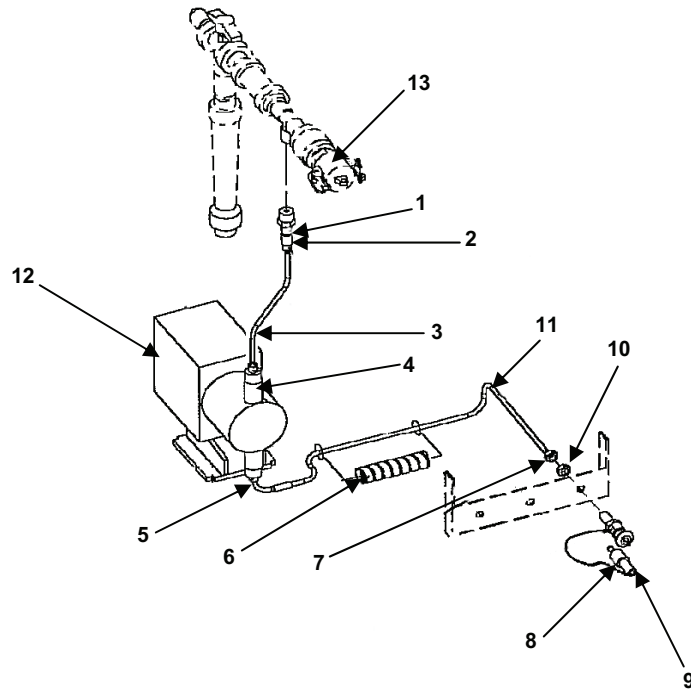

Figure 6. Chlorine Tubing.
1. Disconnect chlorine discharge tubing at nuts (Figure 6, item 2) and at (Figure 6, item 4) at chlorine pump (P7) (Figure 6, item 12).
2. Remove the insert (Figure 6, item 10) from the tubing.
3. Disconnect chlorine suction tubing (Figure 6, item 11) at nut (Figure 6, item 5) and (Figure 6, item 7).
4. Remove anti-siphon valve (Figure 6, item 1) from piping (Figure 6, item 13) if necessary.
5. Remove the spiral wrap (Figure 6, item 6), quick disconnect (Figure 6, item 8) and plug (Figure 6, item 9) only if necessary.
Refer to Figure 6 for this procedure section.
1. Ensure that the inserts (Figure 6, item 10) are present on all the tubing ends.
2. Install anti-siphon valve (Figure 6, item 1) and if removed.
3. Install discharge tubing by connecting nuts (Figure 6, item 2) and (Figure 6, item 4).
4. Install suction tubing by connecting nuts (Figure 6, item 5) and (Figure 6, item 7).
5. Install spiral wrap (Figure 6, item 6) if removed.